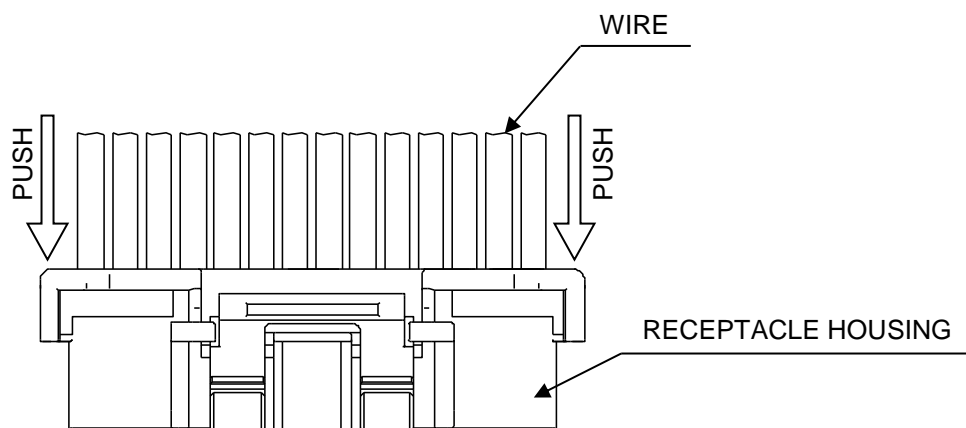

FIG.1
- a. Please push the part directed by FIG.1 at the time of mate. It may damage, when electric wires or lock part of the receptacle housing are pushed.